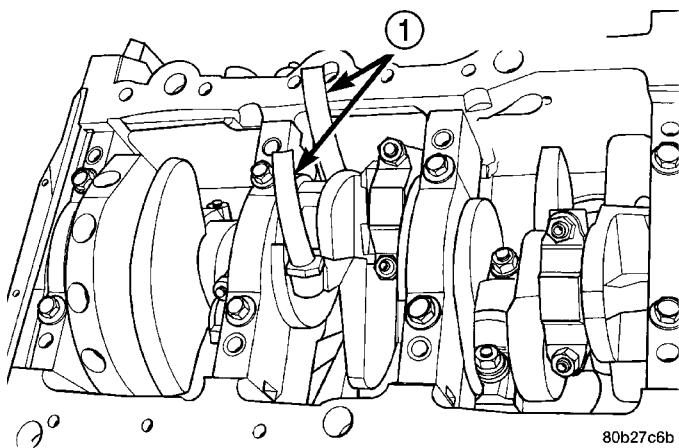

Fig. 82 Connecting Rod Guides and Crankshaft Protectors
(5) Remove connecting rod cap. Install protectors on connecting rod bolts (Fig. 82). Push each piston and rod assembly out of cylinder bore.
(5) Install connecting rod bolt protectors on rod bolts (Fig. 82).
(6) Rotate crankshaft so that the connecting rod journal is on the center of the cylinder bore. Insert rod and piston into cylinder bore and guide rod over the crankshaft journal.